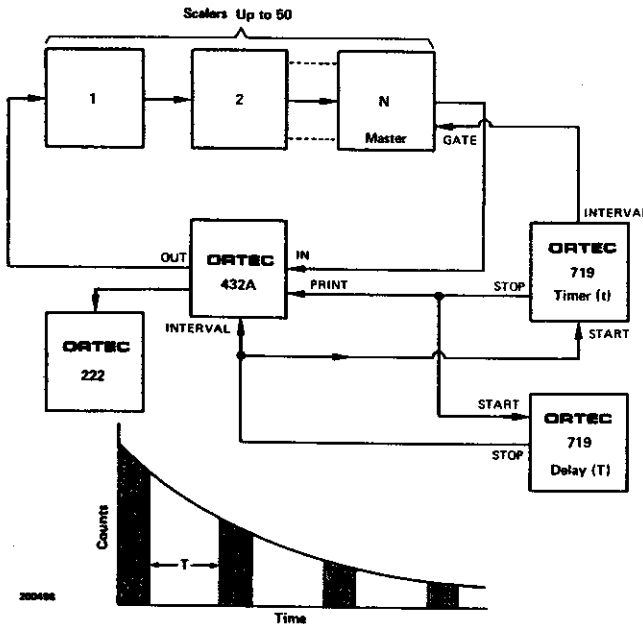

Fig. 4.3. Sampled Counting System.
Two 719 Timers are used for the Sampled Counting System in Fig. 4.3. The 719 that is marked (t) will determine the data-acquisition interval duration. At the end of each such on-time for the system, the accumulated data will be read out to a printer through the 432A. The 432A will be set for External Print command and for Delayed Recycle. Then the other 719 that is marked Delay (T) will measure a time delay from the end of the first data-acquisition interval until the start of the next interval. Logically, this delay time must be long enough for the printout of data from the previous cycle to be completed.